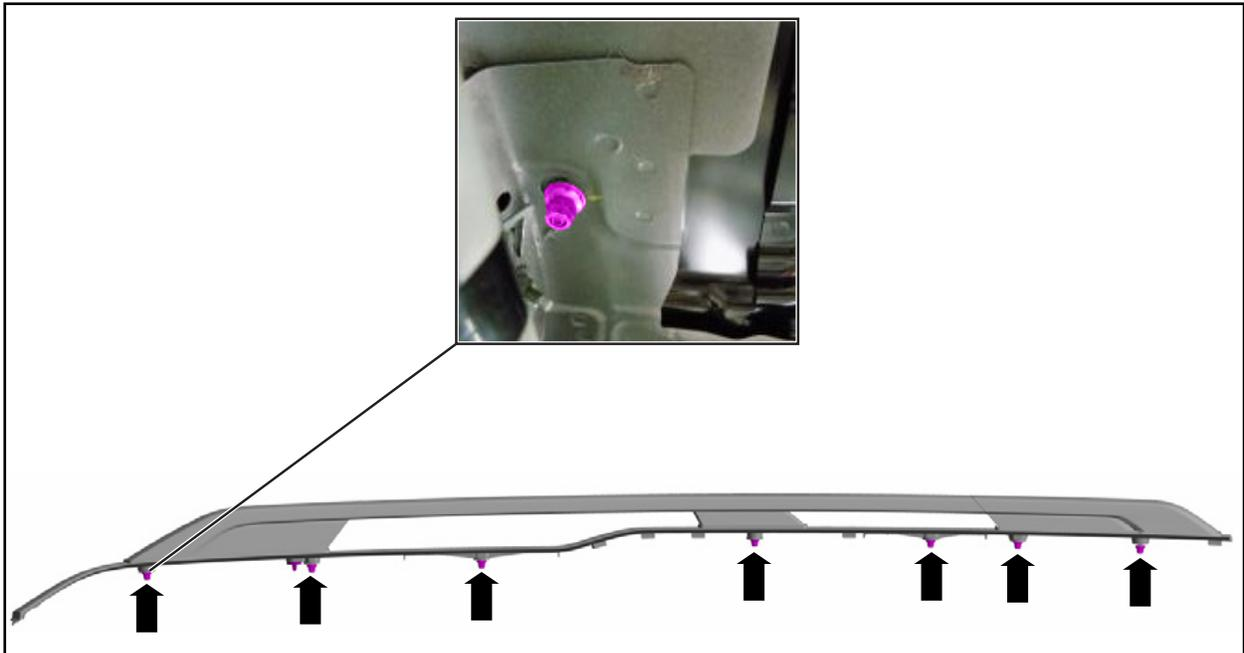

FIGURE 32
32. Remove the LH side rail nuts from inside the vehicle. See Figure 32.